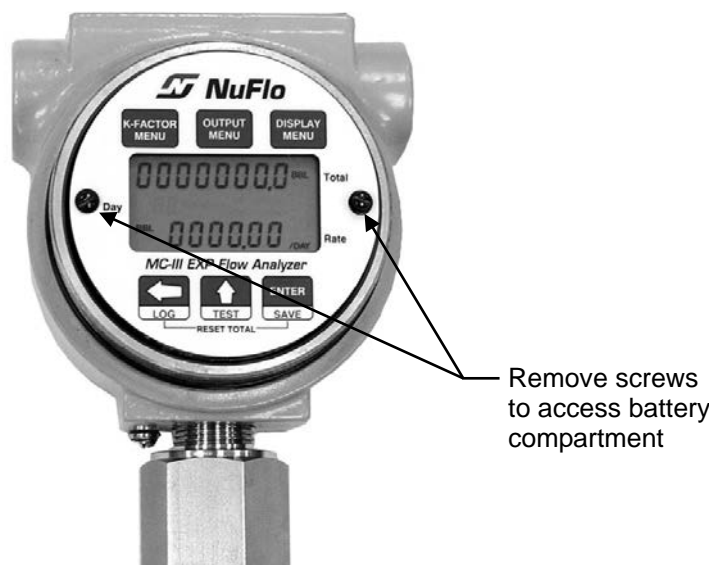

Figure 6.3—Removal of faceplate/keypad assembly
2. Using a small standard blade screwdriver, remove the two #4-40 × 7/8" screws located to the right and left side of the display (Figure 6.3, page 92).